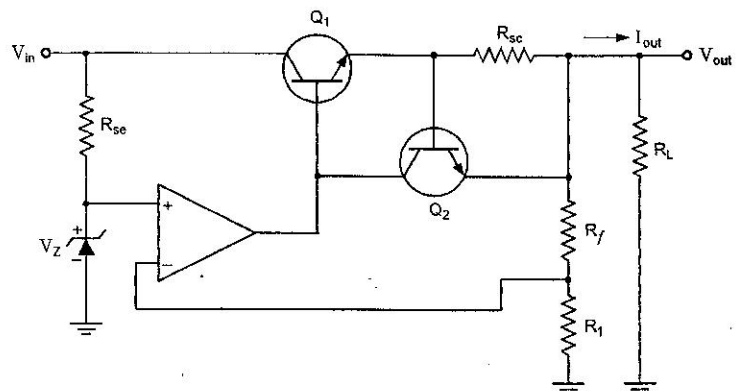

Fig. 32.15. Current Limiting Voltage Regulator
32.6.2. Current Limiting Circuit. One form of short-circuit or overload protection is current limiting, as illustrated in Fig. 32.15. With the increase in output or load current, the voltage drop across the short-circuit sensing resistor R_{sc} increases. When the voltage drop across R_{sc} becomes large enough, it will drive transistor Q_2 on, diverting current from the base of transistor Q_1 , thereby reducing the load current through transistor Q_1 , preventing any additional current to load resistor R_L . The action of components R_{sc} and Q_2 thus provides limiting of the maximum load current.